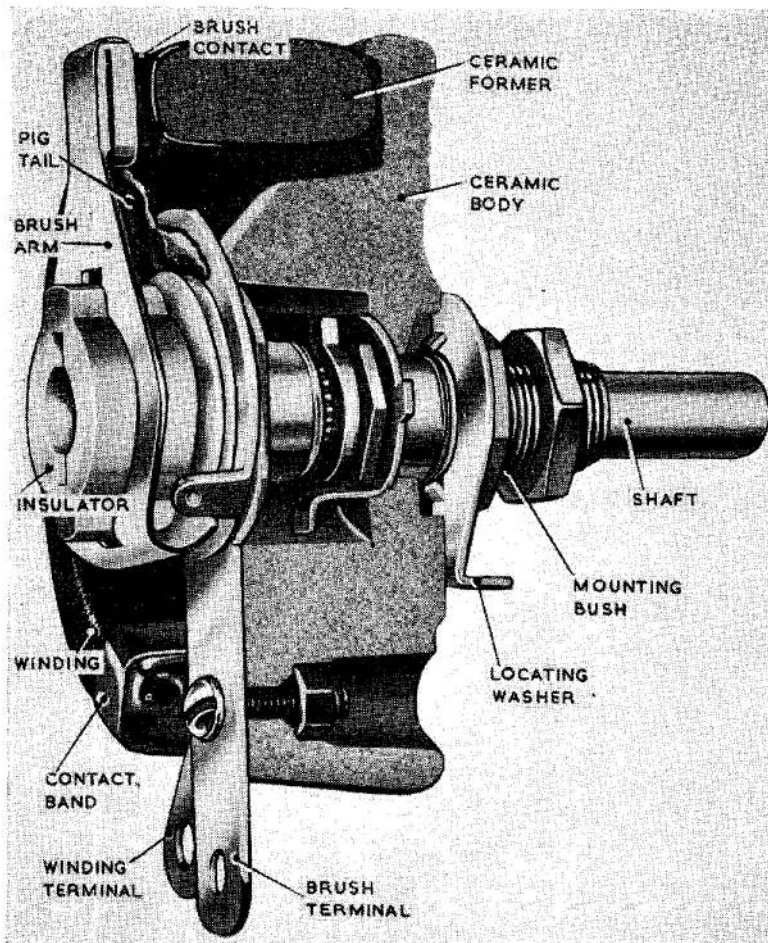

Fig. 1. Sectional view of rheostat
3. A sectional view of the rheostat showing the salient features of the construction is given in fig. 1, the physical size of a particular rheostat being dependent upon its rating. The complete assembly consists of a moulded porcelain base holding the mechanism and mounting, and a former to carry the winding; the final unit comprises one solid mass of porcelain mounted from the centre.